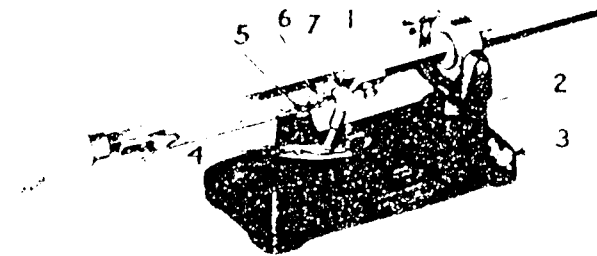

Fig. 18. Knife Hone Set at Proper Angle
To set the hone at the proper angle, loosen the wing screw (1, Fig. 18), rest the stone (6, Fig. 18) on the flat of the leveling surface (5, Fig. 18), then tighten the wing screw.
Loosen screw (7, Fig. 18) and slide knife (4) into position as shown in Fig. 18, then tighten screw (7).
Loosen the adjusting screw (3, Fig. 18), raise or lower the guide yoke (2, Fig. 18) to get the bevel desired on the knife (4, Fig. 18), then securely tighten the adjusting screw (3).